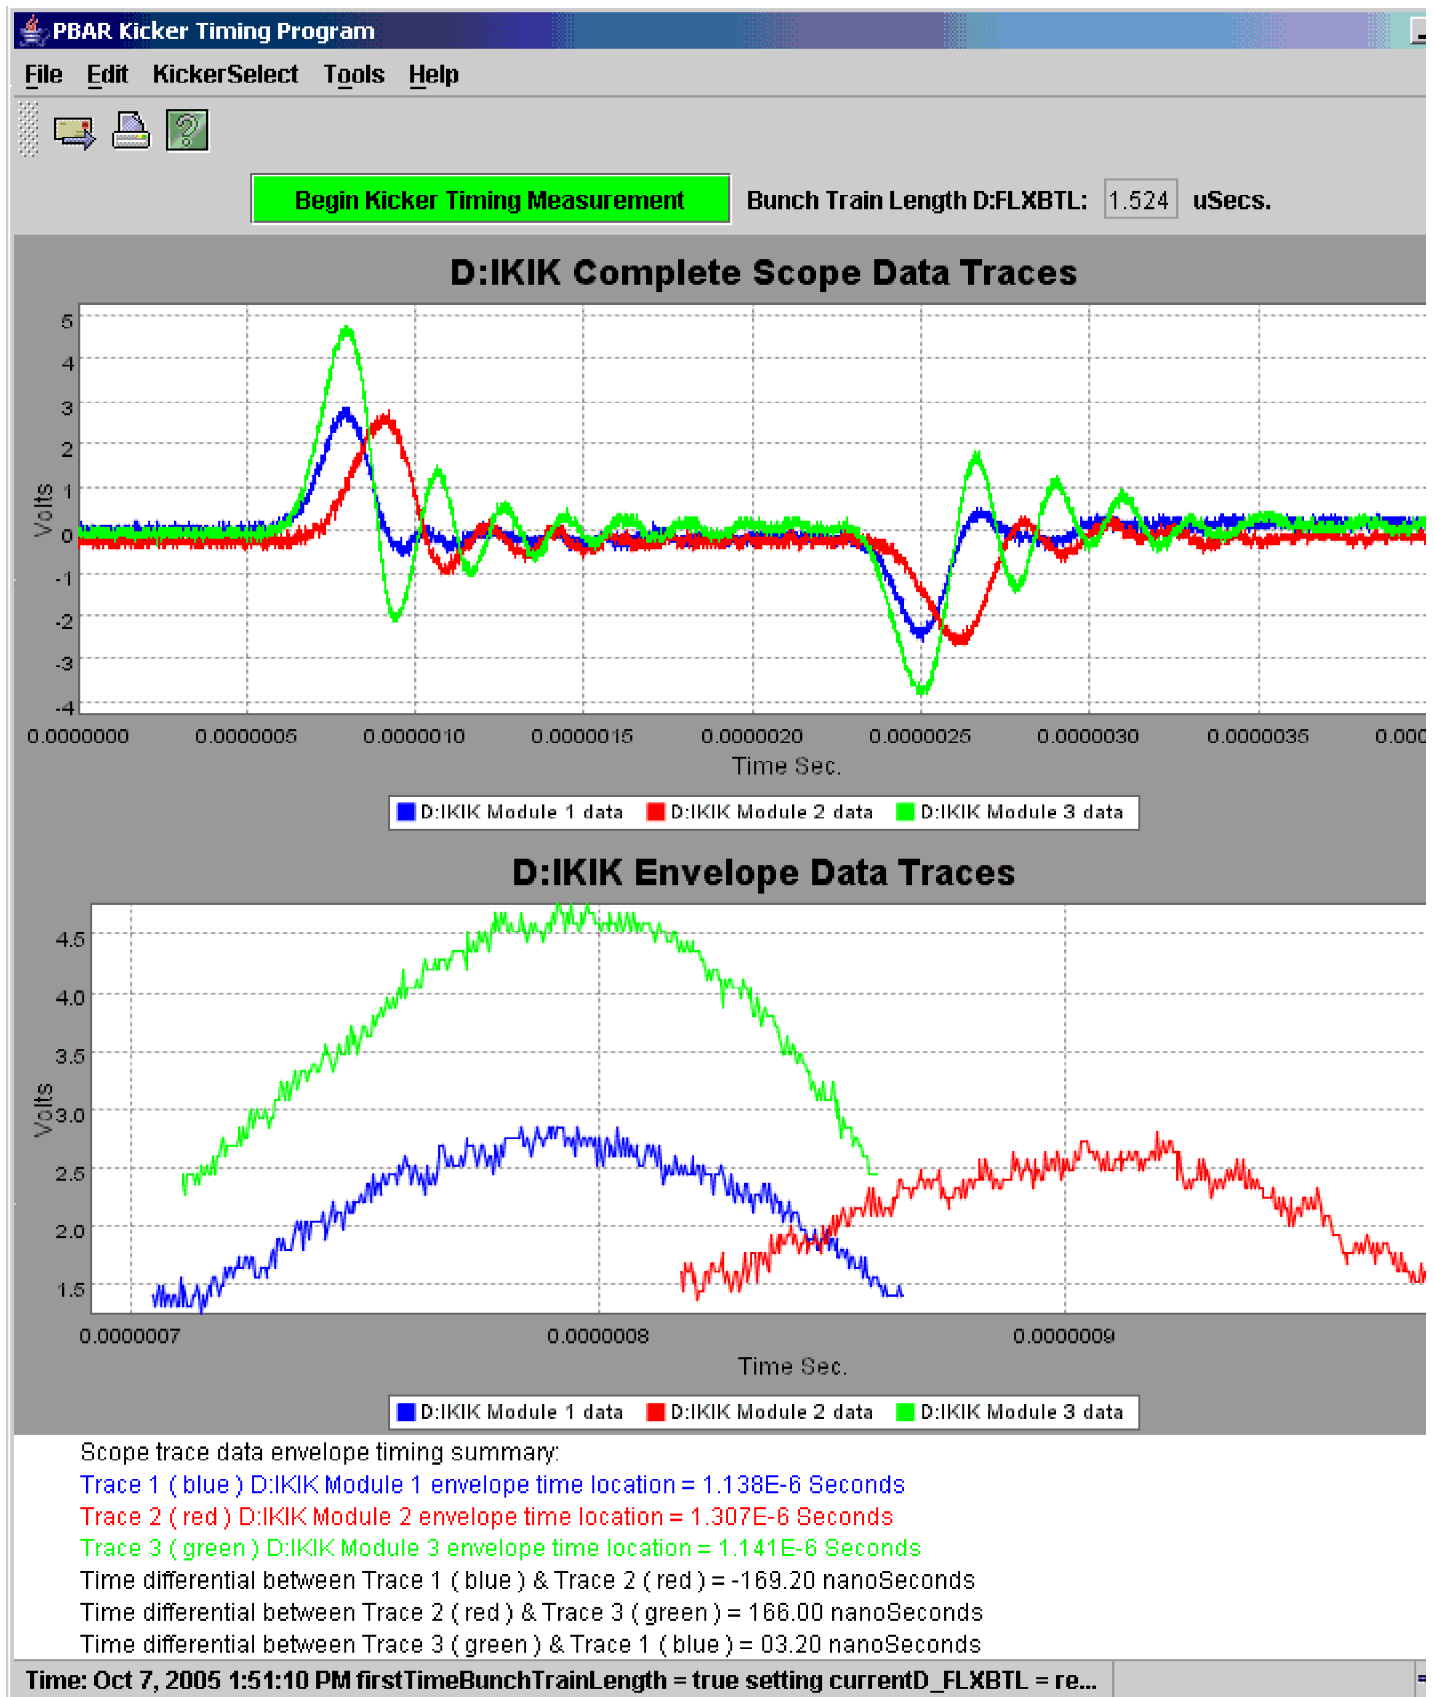

Figure 16:
- Click on the green box that is labeled "Begin Kicker Timing Measurement" as shown in Figure 16. Note the value of D:FLXBTL.